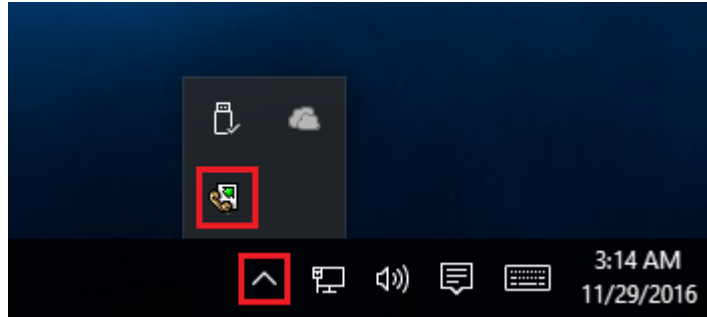

Fig. 6.1.2 Systray - panel near clock
- **Start in minimized state** - at start Accurate Printer Monitor will automatically minimize the program window to the taskbar or to the Systray (fig. 6.1.2).